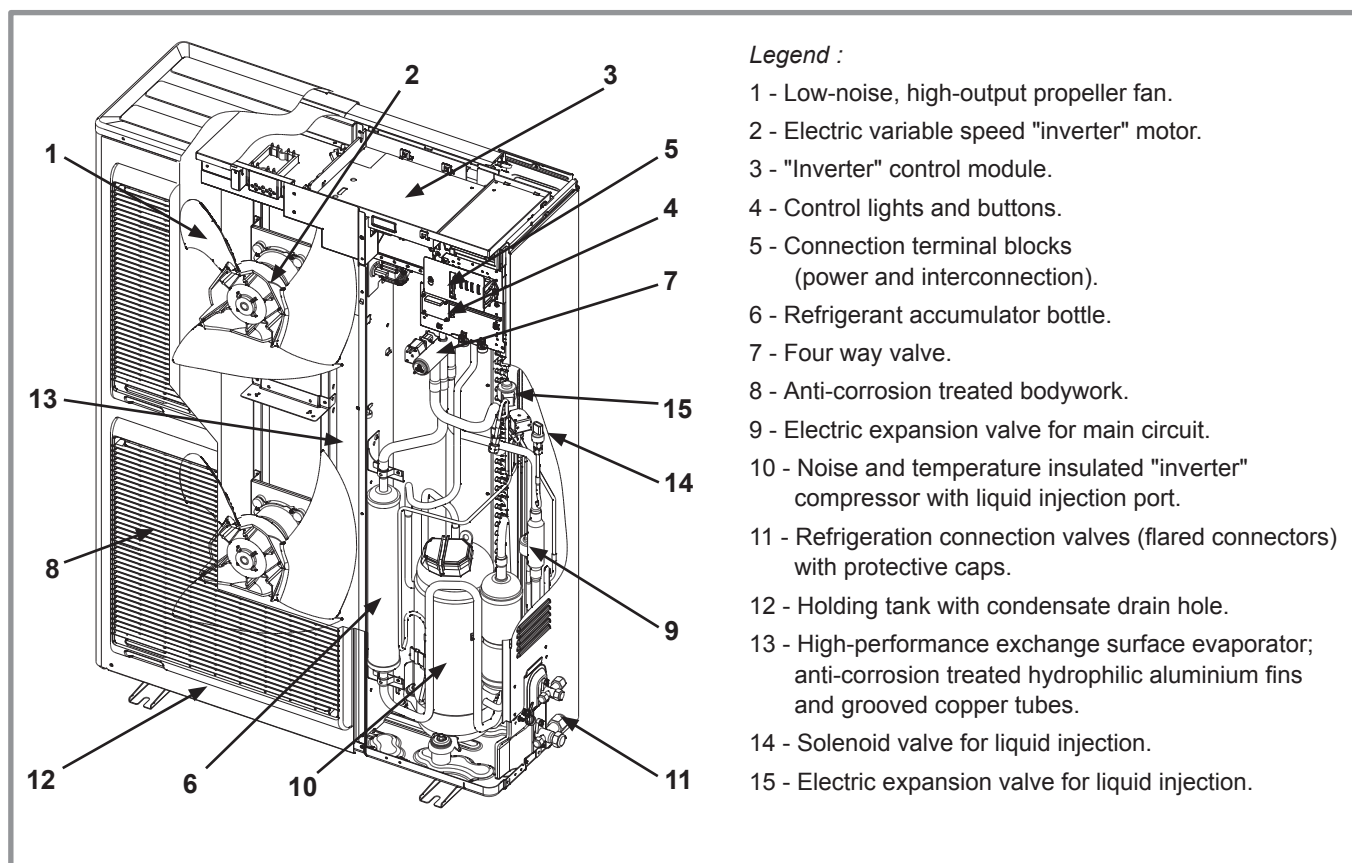

figure 7 - Outdoor unit components
- In the evaporator (rep. **13**, figure 7, page 10) :
- In the compressor (rep. **10**, figure 7, page 10) :
- In the expansion valve (rep. **9**, figure 7, page 10) :